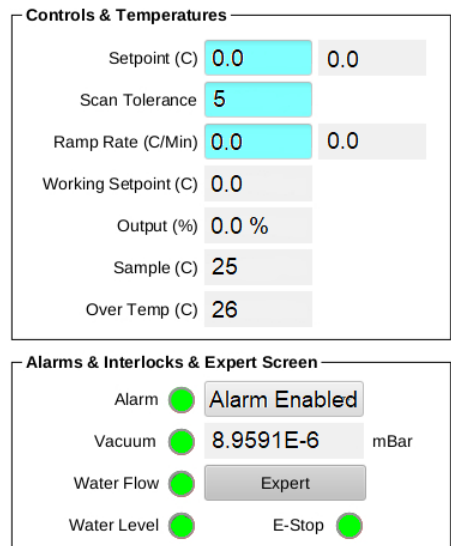

Figure 1. Micas controls on dashboard
- a. Disable alarm by selecting "Alarm Disabled" from the dropdown menu in the Furnace Control box on the dashboard (Figure 1).
- h. Once the pressure, as seen on the furnace controller (Figure 1), is below 1 mbar, press the power button on the turbo pump controller to start spinning it up.
- c. Re-enable alarm by selecting "Alarm Enabled" from the dropdown in the Furnace Control box on the dashboard (Fig 1).